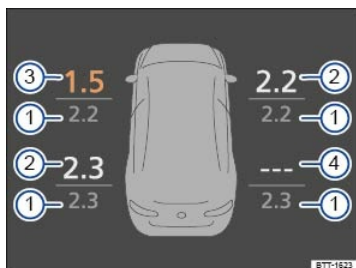

Fig. 184 Illustration of display in the instrument cluster: Current tire pressures.
Key to ⇒ Fig. 184
Open the **Driving data** main menu in the instrument cluster display ⇒ *Instrument cluster menus* and select **Tire pressure**. The display in the instrument cluster shows the vehicle with the current and benchmark tire pressures of all 4 road wheels ⇒ Fig. 184. When the ignition is switched on, the last measured tire pressure will be displayed first; these values will be updated when you start driving. If tire pressure is too low, the relevant tires and the respective readings are shown in yellow ⇒ Fig. 184 ③